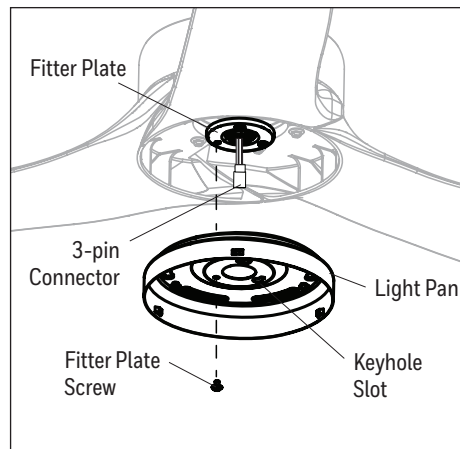

Figure 5.4
- Remove one of the three fitter plate screws preassembled to the fitter plate and loosen the other two but do not remove. Feed the 3-pin connectors through the center hole in the light pan. Align the keyhole slots in the light pan with the loosened screws in the fitter plate. Turn light pan clockwise and replace the previously removed fitter plate screw. Tighten all screws (Figure 5.4).